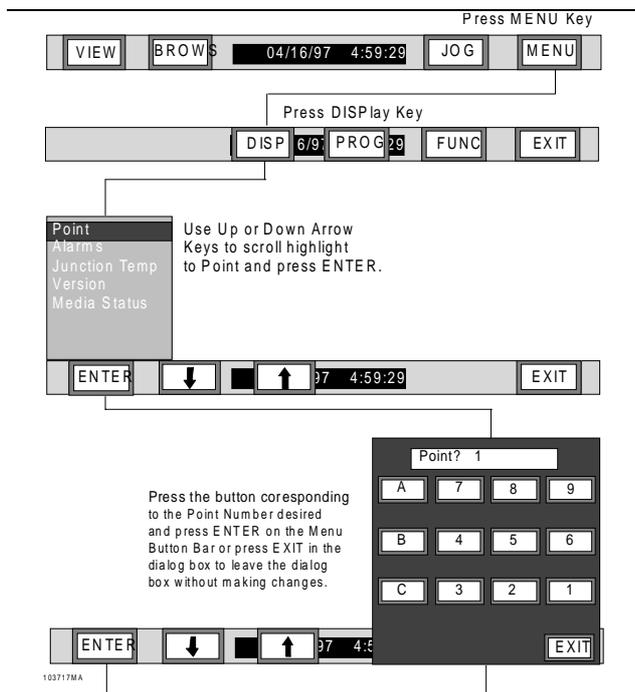

Figure 3-24 Display Point Flow Chart
A. Point - To display a Point value on the Status Line, refer to Figure 3-24 and perform the following steps: